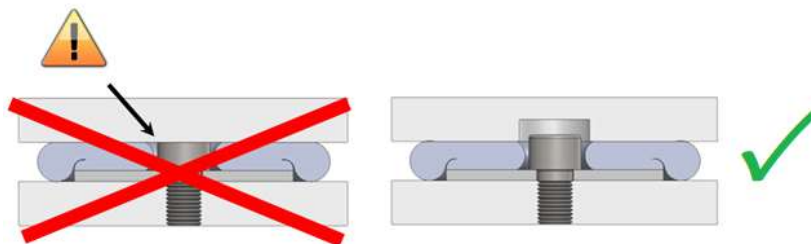

Fig. 10: avoid collision with connecting elements!
4.8 With all fastenings, it must be ensured that the connecting elements do not collide with the counter-pressure plate when the buffer deflects (Fig. 10). For preventing it, the counter-pressure plate should have suitable recesses.